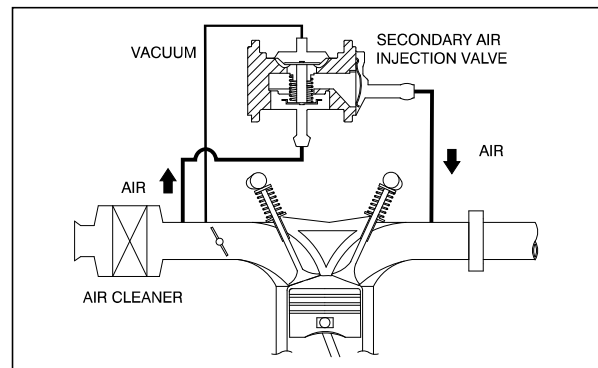

Fig. 4.46
- This is the unit used in exhaust emission control system. The secondary air injection system induces filtered air into the exhaust manifold. Whenever there is a negative pressure pulses in the exhaust system, the fresh air will be taken into the exhaust. This charge of fresh air dilutes considerable amount of hydrocarbons (HC) and carbon monoxide (CO) in the exhaust gases into carbon dioxide (CO₂) and water (H₂O). (Fig. 4.46)